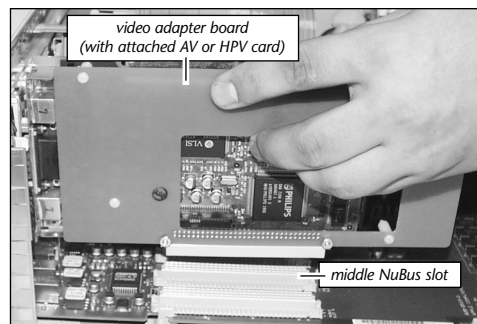

Figure 20: Install adapter board into middle NuBus slot
17. If you are reinstalling any NuBus cards, first install a NuBus card into the NuBus slot closest to the power supply. Then, align the video adapter board over the **middle NuBus slot** on the logic board with the inverted AV or HPV card on the adapter board facing toward the power supply (**Figure 20**). Verify the adapter board lines up with the inline NuBus guides of the 7100's case. Gently press down on the adapter board (not directly on the AV or HPV card) until the adapter board is firmly seated in the middle NuBus slot. If you encounter excessive resistance, check for bent connector pins, re-align the adapter board over the middle NuBus slot, and gently press down again. If you have a second NuBus card to install, install it into the outer NuBus slot.